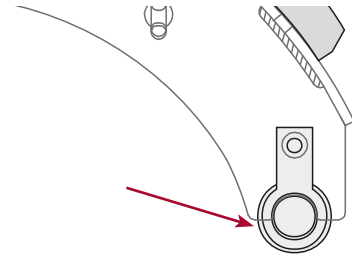

Figure 62: Install Roller Assembly into Brake Shoe
2. Fit clip onto roller and install into the brake shoe assembly. Refer Figure 62.